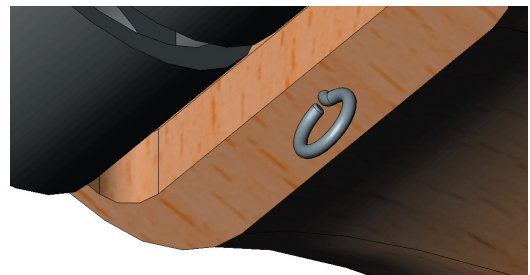

Fig. 54
Step 12. Click Add/Finish Mate  in Mate pop-up toolbar to add a **Concentric** mate, Fig. 54.